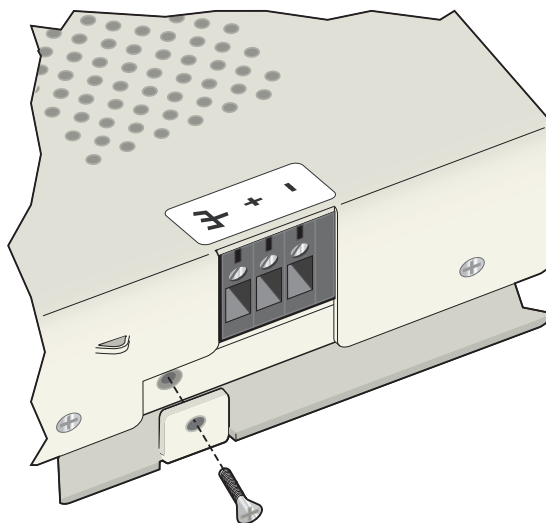

Figure 3. Side Panel Terminal Block
- Power connections are made to a terminal block located on the side panel of the 10Base-T Hub (see Figure 3).
The 10Base-T Hub ships pre-assembled to the external mounting bracket, and unassembled from the internal mounting bracket. It is necessary to disassemble the 10Base-T Hub before installing on a wall or in a rack. See Figure 3 and Figure 4 for details on disassembling and assembling the 10Base-T Hub.
The 10Base-T Hub ships pre-assembled to the external mounting bracket, and unassembled from the internal mounting bracket. The 10Base-T Hub must be disassembled before performing the following instructions. See Figure 3 and Figure 4 for details on disassembling and assembling the 10Base-T Hub.